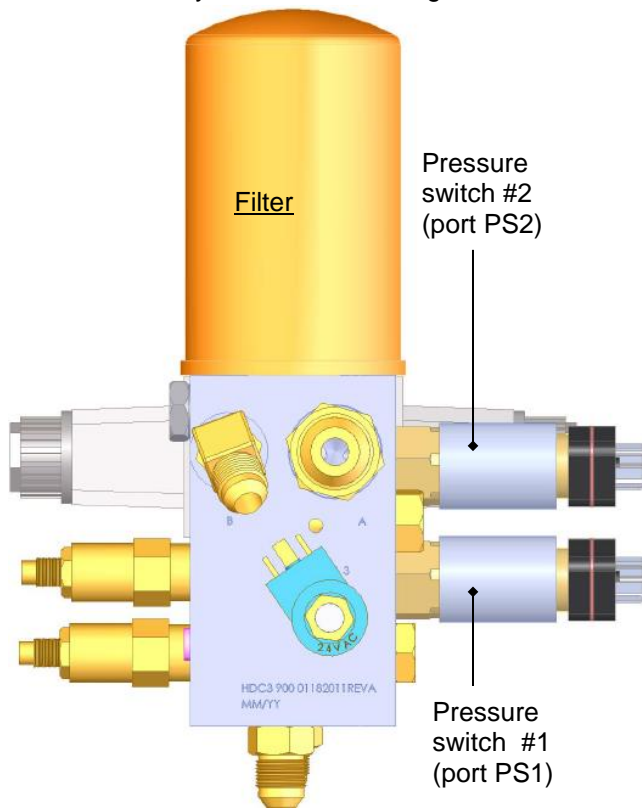

FIG. 5: Front view
Manifold assembly shown below in Figures 5 – 8 below corresponds to item no. 21 on p. 6 and to Fig. 4 on p. 7.
2. Prepare the pressure switches. See FIGS. 5 & 6.
- b. Decrease the setting on PS2—the upper pressure switch shown in FIGS. 5 & 6. Rotate the knurled knob counterclockwise until it clicks. The click indicates that the directional valve shifted. Consequently, the piston rod retracts and the platen returns to the raised position. When the platen is fully retracted, the power unit turns off. The compacting force is now adjusted.
- i. Increase the relief valve (RV) setting. Turn the valve clockwise until the GA port gauge displays 3000 psi.
- ii. As the power unit runs, turn the knurled knob on the lower pressure switch connected to port PS1 (see FIGS. 5 & 6) counterclockwise until it “clicks”. The click indicates that the switch is open. Simultaneously, the valve shifts and the piston retracts (platen rises).